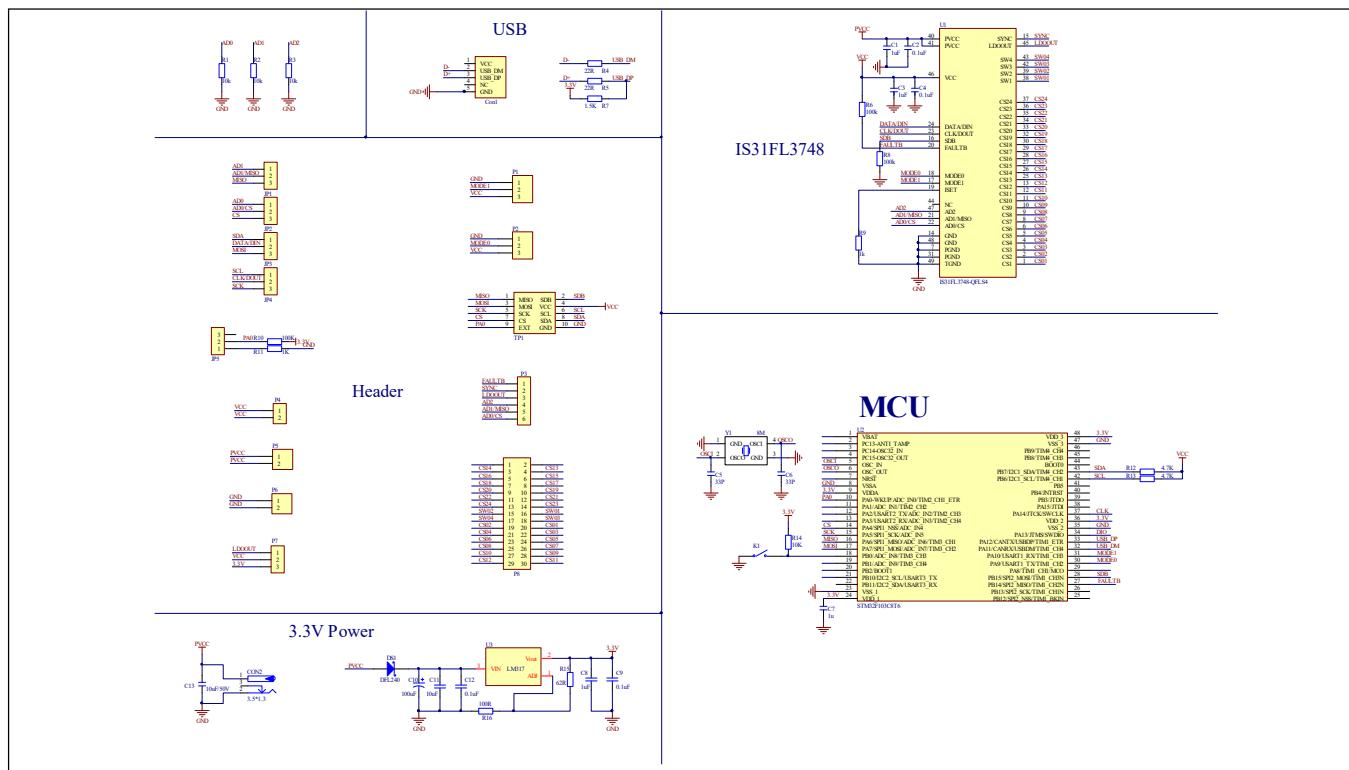

Figure 3: IS31FL3748 EVB Schematic
*Bill of Materials, refer to Figure 3 above.*